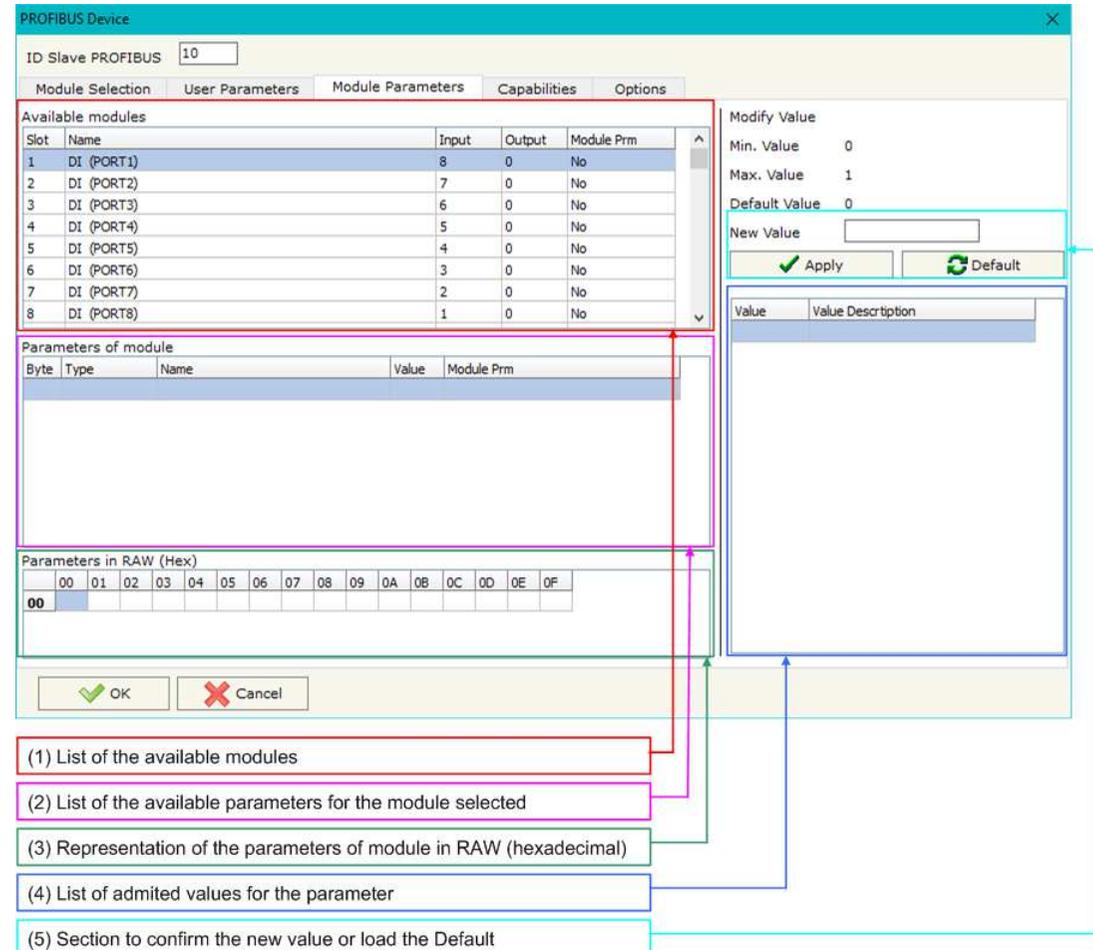

Figure 11: “PROFIBUS Device – Module Parameters” window
The section “Module Parameters” is used to modify the parameters of the Modules (Fig. 11).
- The List of all Module selected in the GSD file (“Available modules”) (Fig. 11, point (1));
- The List of all Parameters available for the Module selected (“Parameters of module”) (Fig. 11, point (2));
- The Configuration of all parameters in RAW for the Module selected (“Parameters in RAW (Hex)”) (Fig. 11, point(3));
- The admitted value for the selected parameter. It is possible to select the value desired and confirm it with the “Apply” button. If no value appears in this table, the “Min Value” and “Max Value” are the limit of the parameter. (Fig. 11, point(4));
- The “Apply” button is used to confirm the new value of the parameter, the “Default” button is used to load the factory value for the parameter. In “New Value” edit box it is possible to set the new value. (Fig. 11, point(5)).